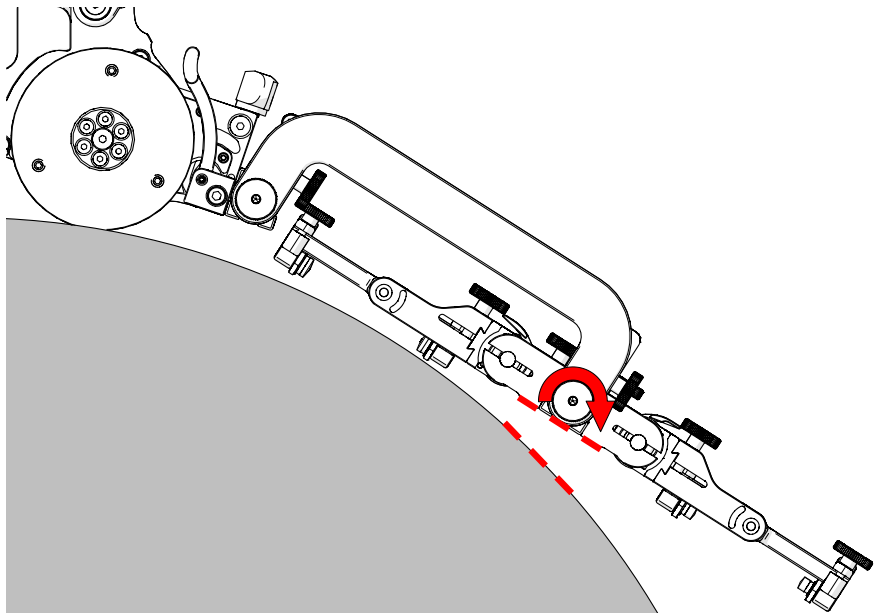
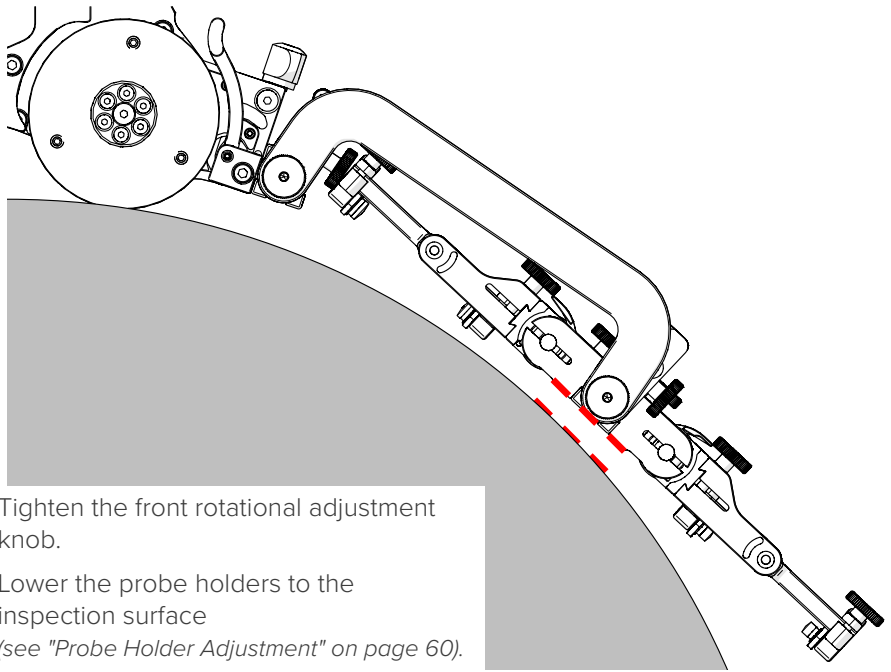

Fig. 141 - Align probe holder tangent with scan surface
Fig. 142 - Low profile probe holder frame
6. Loosen the front rotational adjustment knob (Fig. 141) to align the frame bar parallel with the scan surface (Fig. 142).